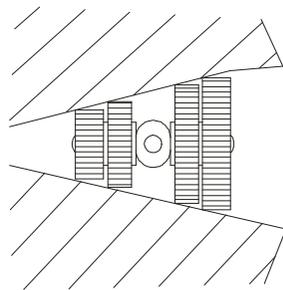

fig 4
3. Never place a unit where any single cam is near its maximum extension. (fig 4)